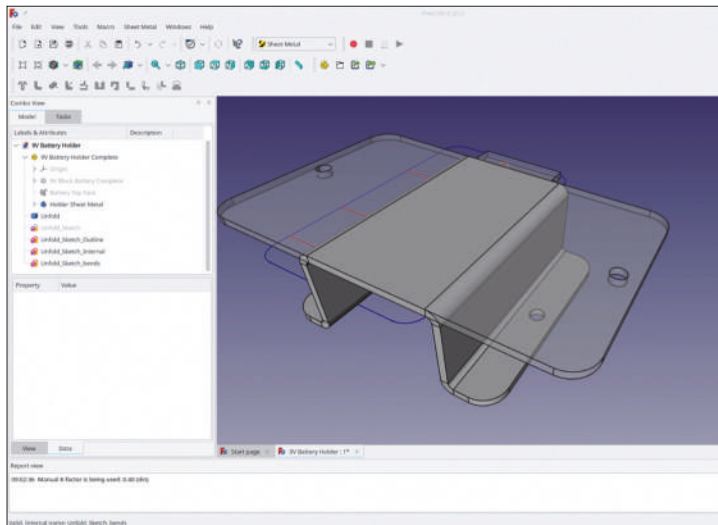

Figure 5-26
31. In the stem of the tree view, some new items appear (Figure 5-26). One is the object 'Unfold', which represents (in the 3D view transparent) a model of the flattened part. Furthermore, there are nicely sorted out sketches 'Unfold\_Sketch\_Outline' (the outer contour), 'Unfold\_Sketch\_Internal' (with all the internal openings of the sheet), and 'Unfold\_Sketch\_bends' (the positions where the part needs to be folded). You may find this division useful because your milling machine has to add radius corrections that differ for outlines and internals.